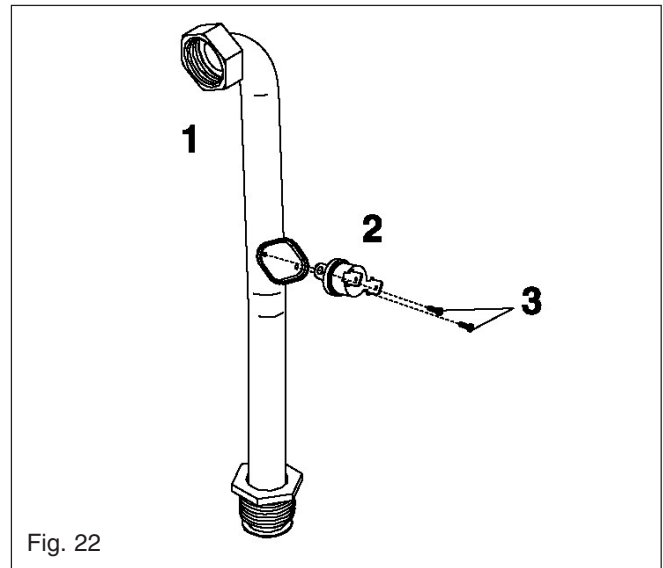

Fig. 22
**6.11 HIGH LIMIT THERMOSTAT fig. 22**